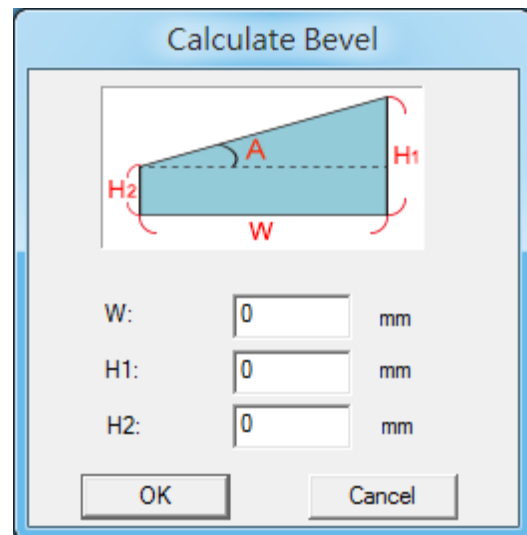

Fig.3.2.29
**Calculate Bevel** Input the parameter to calculate the slopr angle. Refer to fig.3.2.29